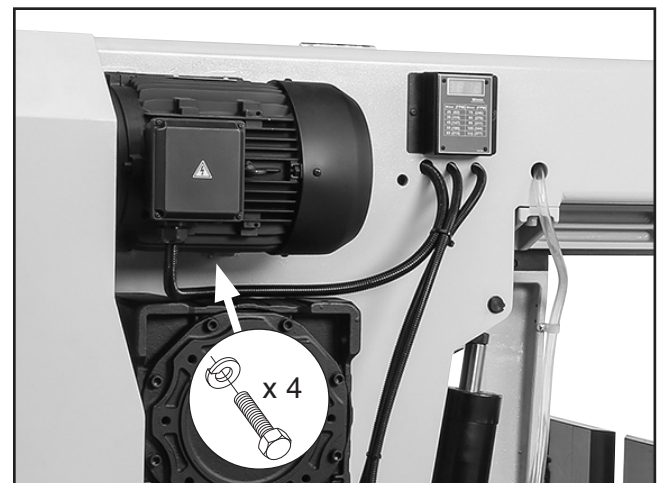

Figure 118. Motor mounting bolts location.
5. While an assistant holds motor, loosen (4) motor hex bolts (see **Figure 118**).